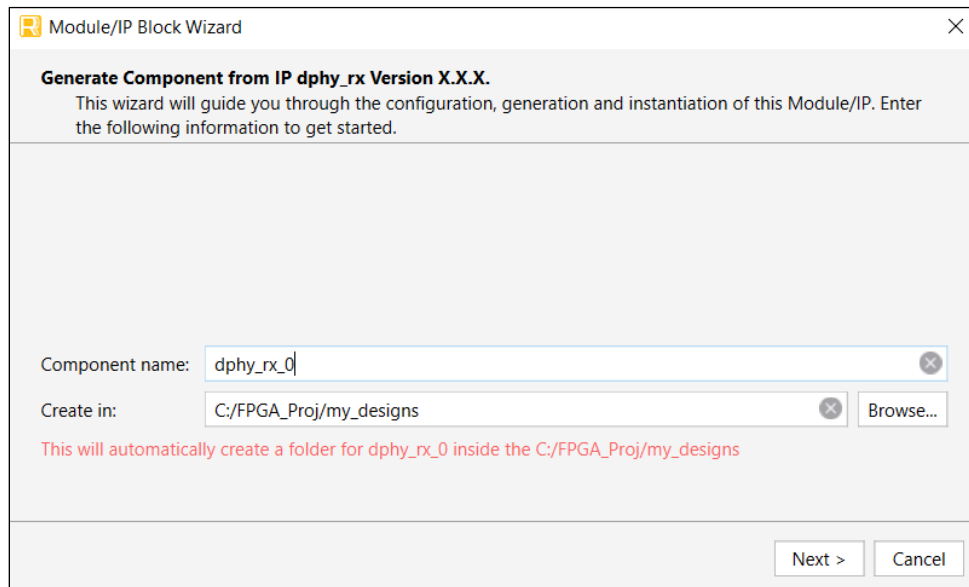

Figure 7.1. Module/IP Block Wizard
2. In the **IP Catalog** tab, double-click **CSI-2/DSI D-PHY Receiver** under **IP, Audio_Video_and_Image_Processing** category. The **Module/IP Block Wizard** opens as shown in Figure 7.1. Enter values in the **Component name** and the **Create in** fields and click **Next**.
- Click **Finish**. All the generated files are placed under the directory paths in the **Create in** and the **Component name** fields shown in Figure 7.1.